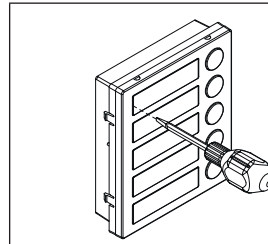

Fig. 5
- Insert the screwdriver (flat side) into the card-holder hole as shown in **Fig. 5**;